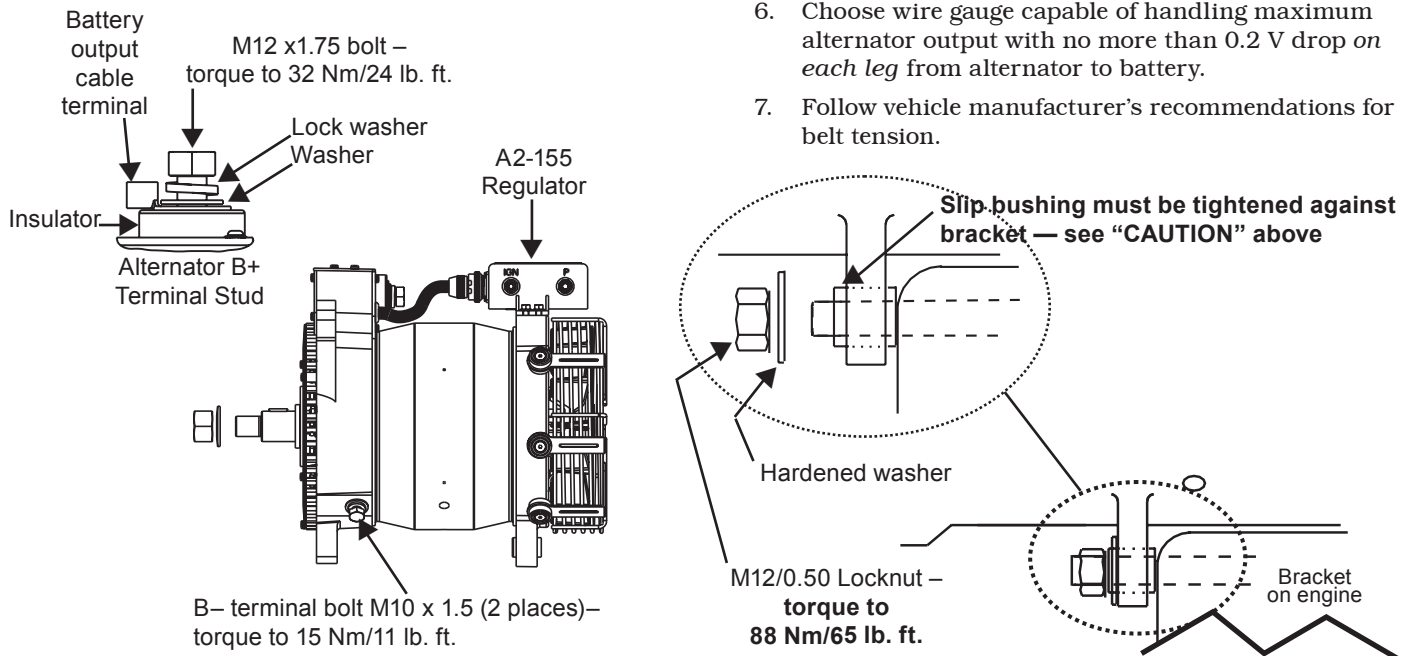

Figure 1 - C714 Alternator Installation Details
1. Install alternator as shown in Figure 1: